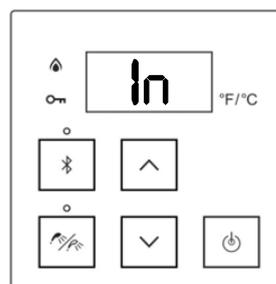

Figure 56:
4. The controller displays “In” (indoor) (Figure 56).